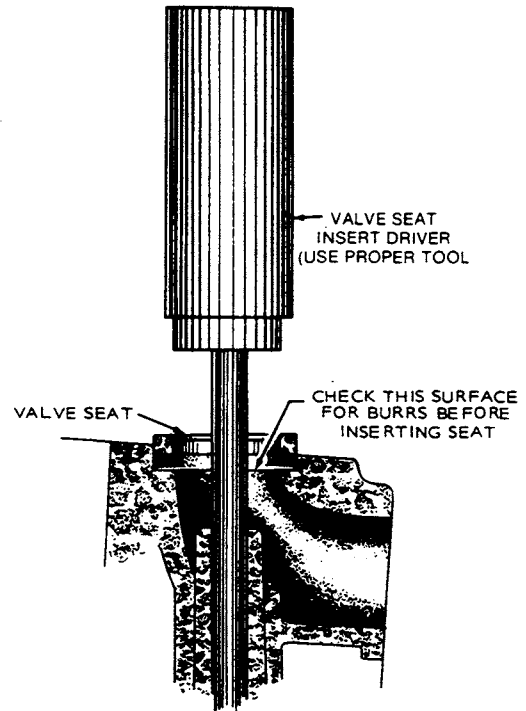

FIGURE 5. INSERTING NEW VALVE SEAT
**Valve Seat Installation:** After the old seat has been removed, clean out any carbon or metal burrs from the seat insert recess. Use a valve seat insert driver and hammer to install the insert (Figure 5). Drive the valve seat insert in so the insert enters the recess evenly. Make certain that the valve seat insert rests solidly on the bottom of the recess all the way around its circumference.